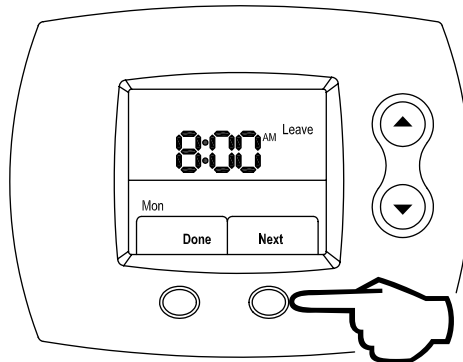

Figure 57
Step 10: Press the **RIGHT** (Next) button to set the Leave start time, which is shown in Figure 57.